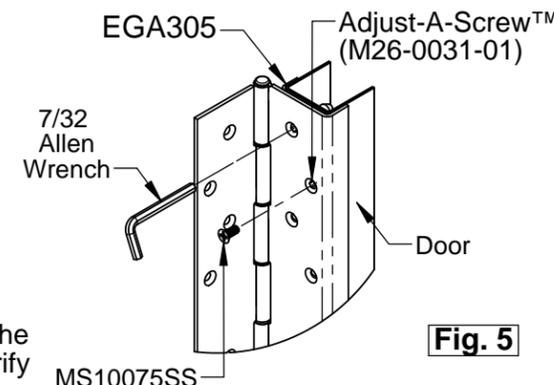

Fig. 5
**Adjustable Hinge: (Fig. 5) Install the top & bottom four screws first, then close door to check alignment. See special note below**
**Special Note:** If the door is properly aligned, install and tighten the remaining screws. If the door requires alignment for proper fit, make this adjustment with the four screws installed without removing the door. Remove one screw and insert the Allen wrench through the hole into the Adjust-A-Screw (Fig. 5). Turn the Adjust-A-Screw in the direction desired for adjustment. One full turn of the Allen Wrench is equal to 1/16". Reinstall the screw. Adjust the remaining screws in the same manner. Close the door to verify if door is aligned properly in the opening. The balance of the Adjust-A-Screw should be adjusted in the same manner until all are resting firmly against the inside face of the hinge. Then install and tighten the remaining machining screws. Be sure the adjustable angle is pressed firmly against the face of the door as the screws are tightened.